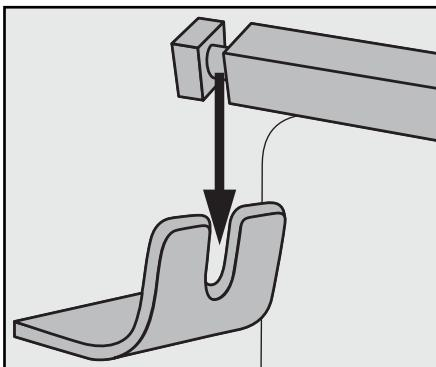

Fig. 2: Insert the rotisserie 16 in the spit fitting 9.
- Then insert the other end of the rotisserie 16 with the deep groove in the spit fitting 9 (Figure 2):